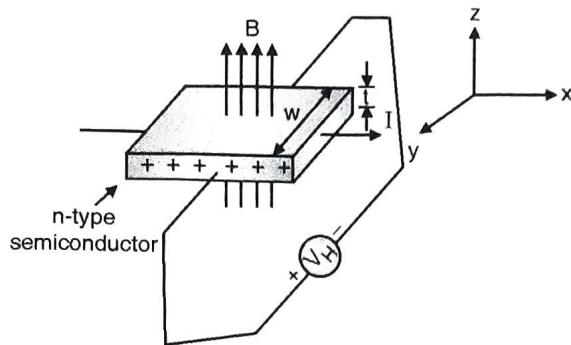

Fig. 3.10.1: Hall effect
- If a metal or semiconductor, carrying a current I is placed in a transverse magnetic field B , an electric field E is induced in the direction perpendicular to both I and B . This phenomenon is known as **Hall effect** and the electric field or voltage induced is called **Hall voltage (V_H)**. The physical process of Hall effect is as follows. Consider a specimen along positive x-direction (Fig. 3.10.1).
- If the specimen in Fig. 3.10.1 is assumed to be of n-type, then magnetic force experienced by electrons will be towards -Y direction as it is applied transversely